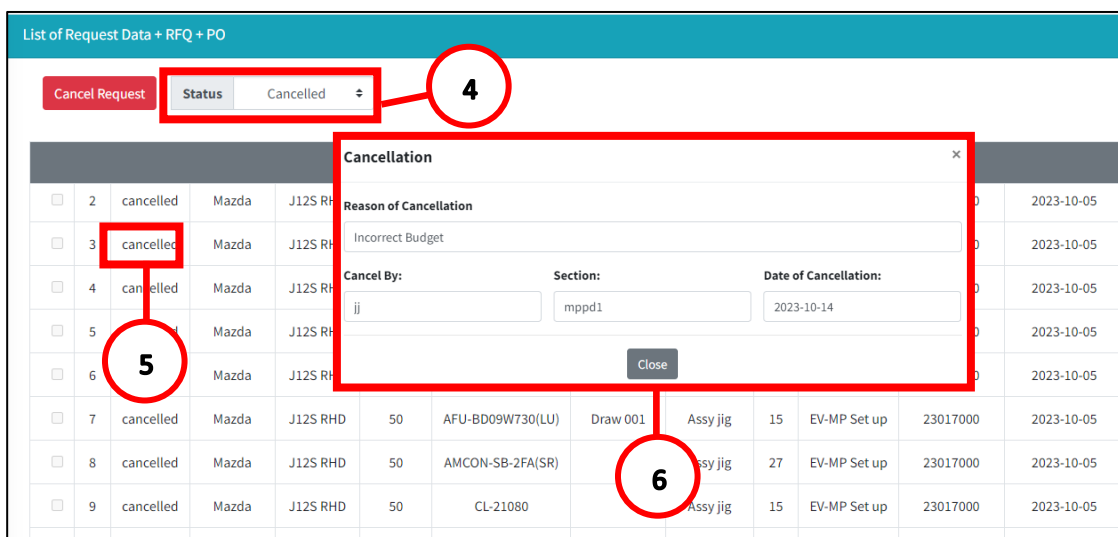

Figure 2.7
4. Click the **status** to filter the all **cancelled** request data (See Figure 2.7).
5. Click **cancelled** under status column (See Figure 2.7).
6. View the cancellation data (See Figure 2.7).